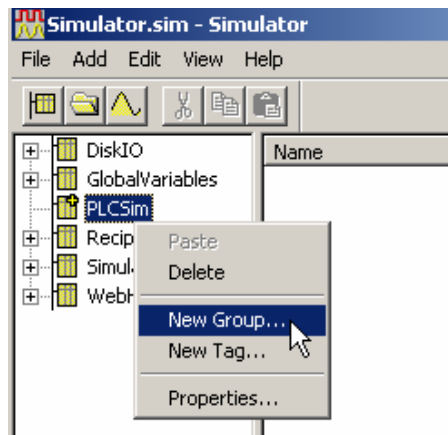

Figure 4.4. Creating a New Group
1. Right-click the **PLCSim** device and select **New Group** from the pop-up menu, as shown in **Figure 4.4**.